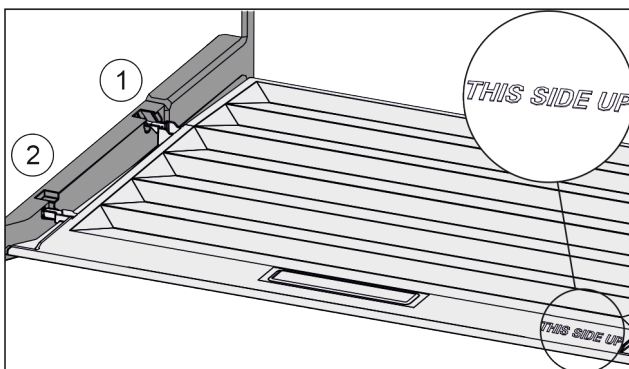

Fig. 82
- ▶ Insert the lip of the cover over the opening of the rear bracket *Fig. 82 (1)* and click into place *Fig. 82 (2)*.